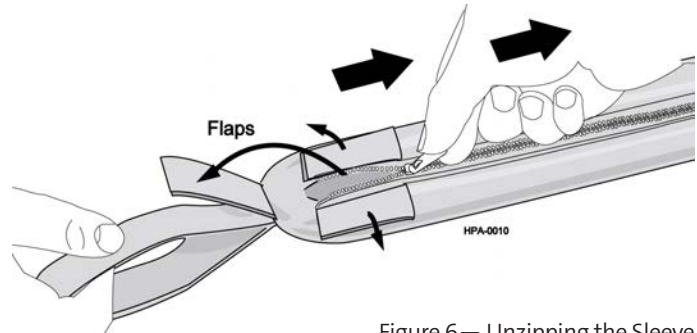

Figure 6— Unzipping the Sleeve
Step 2: Lift the hook-and-loop flaps to expose the zipper pull. While holding the sleeve's pulling loop with one hand, unzip the sleeve (Figure 6).